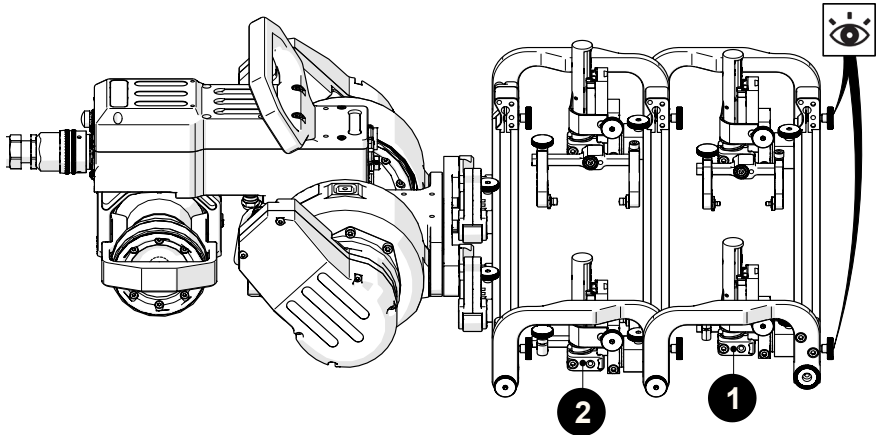

Fig. 129 - Position primary and secondary probe holders
2. Affix the probe holders (with attached wedges) to the probe holder frame. Place the secondary probe holder at the front of the **1** frame and place the primary probe holders at the rear of the **2** frame bar (Fig. 129).
3. Mount the probe holder frame to the double pivot mount. When mounting the probe holder frame, ensure the attachment knobs (Fig. 129) are at the front (non-crawler side).